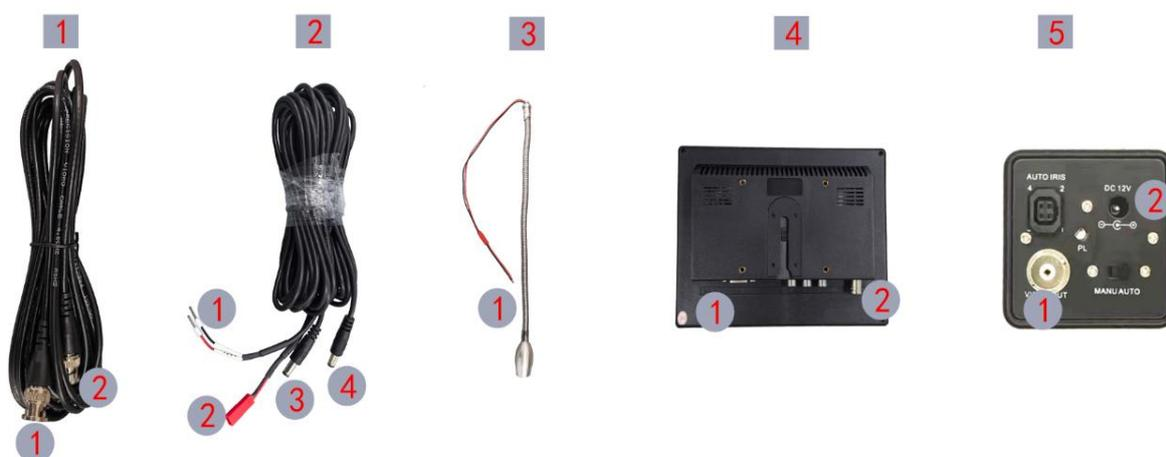

Figure 3.10 CCD wiring
③ wiring and connection as shown in figure 3.10: